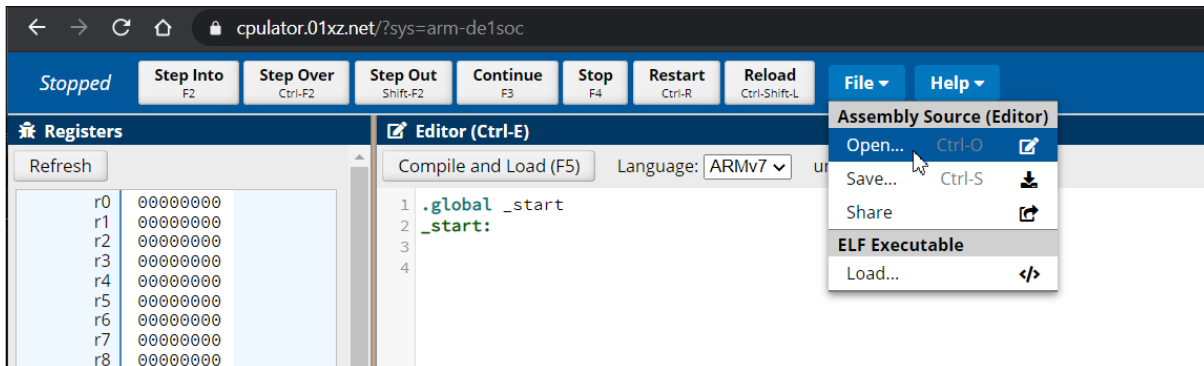
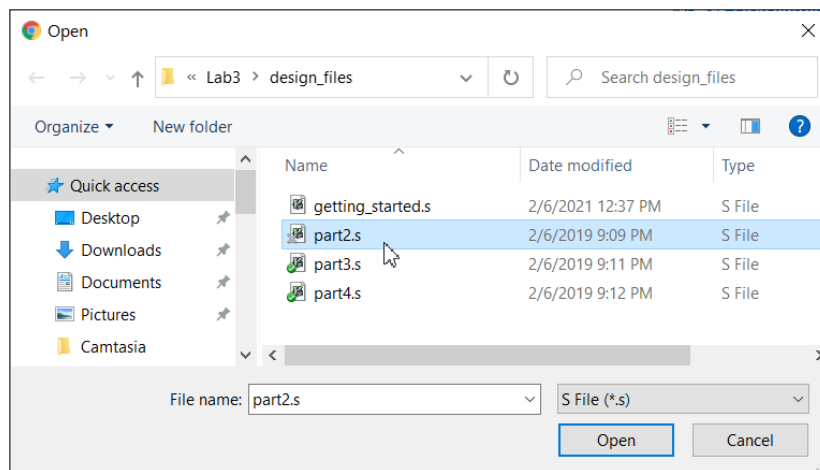

Figure 2: The `File` menu in *CPULator*.
Figure 3: Selecting the *part2.s* file.
1. Create an assembly-language source-code file for the program in Figure 1, and name the file *part2.s* (this file is included in the *design files* for this lab exercise). Then, open the *CPUlator* web-site and set its system parameters to choose the ARMv7 processor and DE1-SoC board (the corresponding URL for the *CPUlator* web page should be <https://cpulator.01xz.net/?sys=arm-del1soc>). As indicated in Figure 2, click on the File command near the top of the *CPUlator* window and then select Open . . . Next, in the dialogue depicted in Figure 3, browse in your computer's file-system to choose the *part2.s* file and then click .